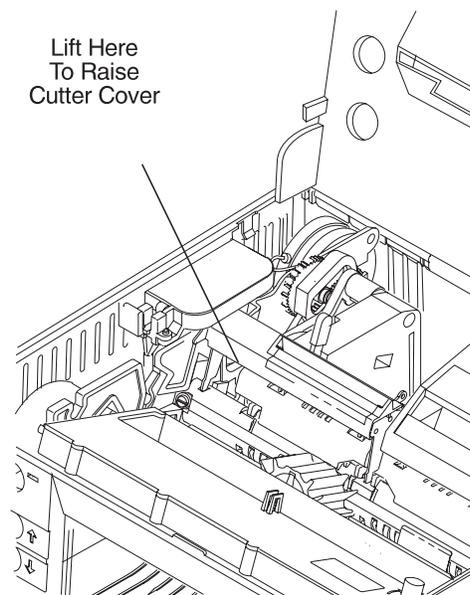

Figure 6-13. Paper Cutter
The paper cutter gears, (1) in Figure 6-13, should move smoothly and the paper cutter blades should completely retract.